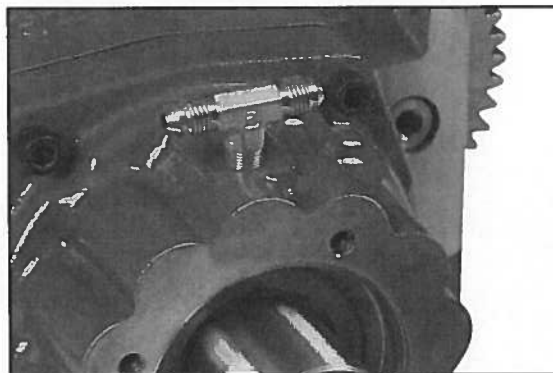

Fig. 8
2. If unit has a wetspline output option, install tee fitting (379627) into output bearing cap (**Fig 8**).